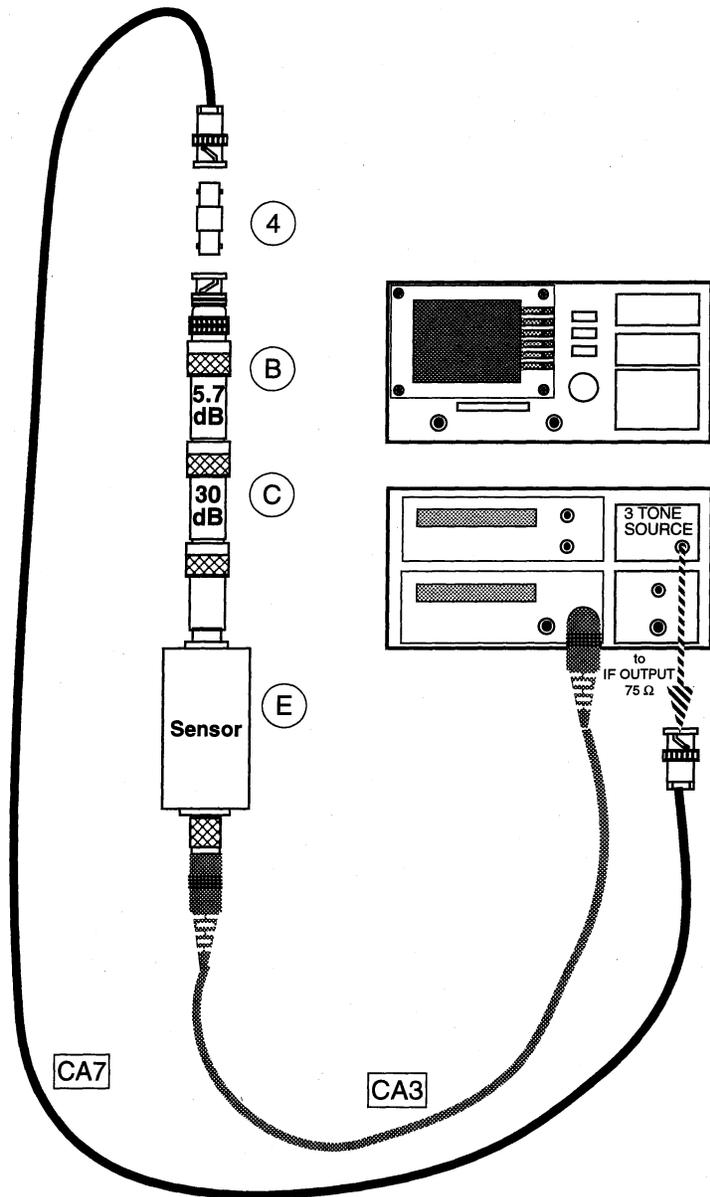

Figure 25. Establish 3-Tone Test Signal Level
- 7 Connect the test equipment as shown in Figure 25.